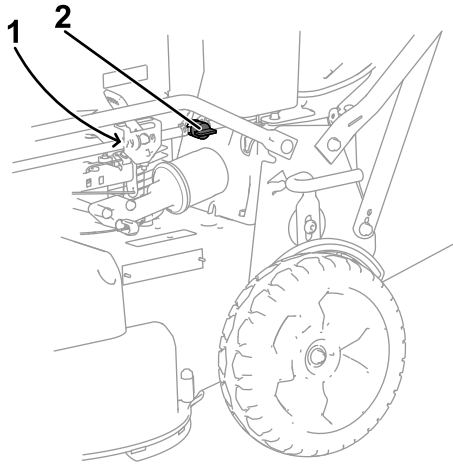

Figure 30
3. Close the fuel-shutoff valve (Figure 30).
4. Remove the fuel filter (Figure 30) from the fuel line by loosening the tube clamps surrounding the fuel filter.